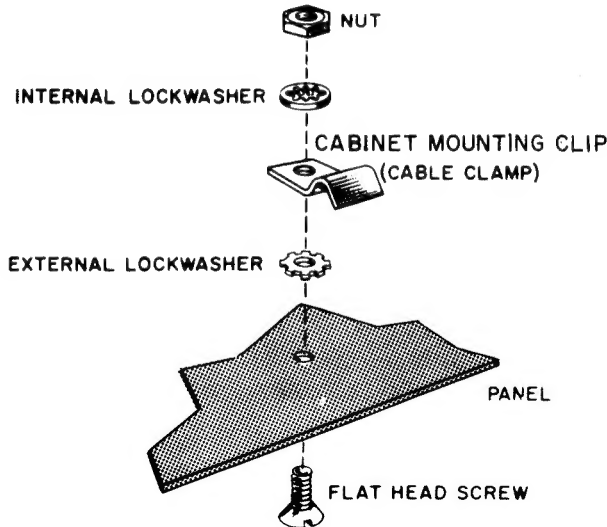

FIGURE 2. HOW TO ASSEMBLE THE CABINET CLAMP
- ( ) Insert the short flat head screw through the hole in the top center of the panel. Place an external lockwasher over the screw. Next put one of the cable clamps over the screw. Now, put on an internal lockwasher and tighten a nut over it very securely. See Figure 2.